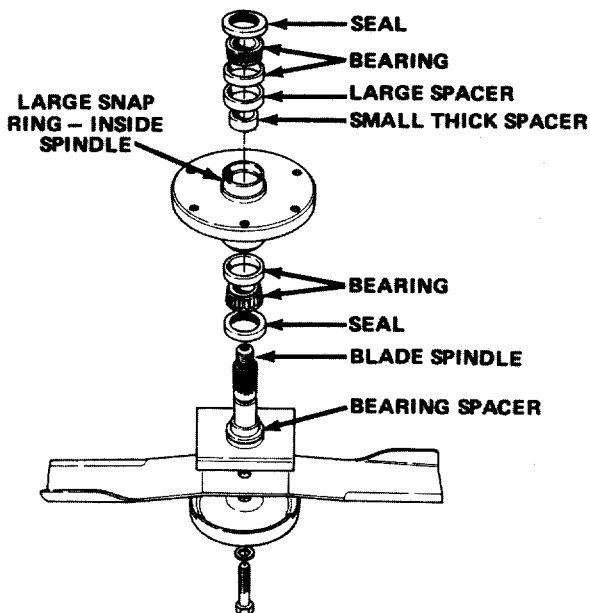
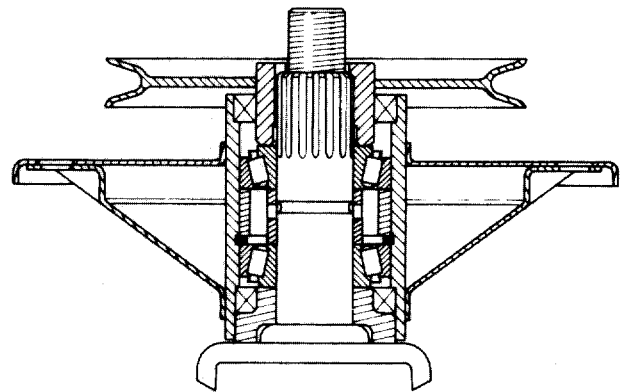
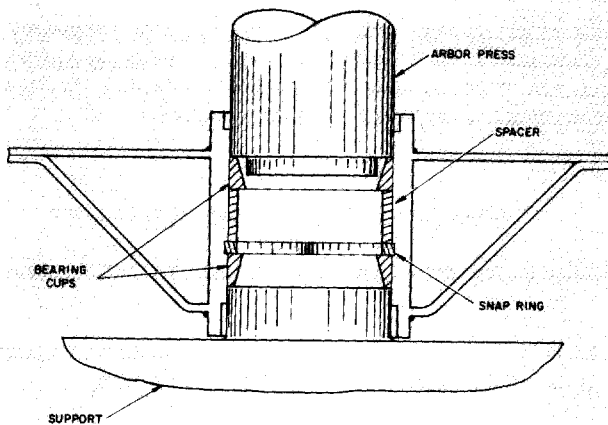

Figure 22
Figure 23
Figure 24
5. If spindle shaft will be replaced, move bladebolt, lockwasher, anti-scalp cup and blade from spindle shaft (Fig. 22). Otherwise, the blade and its other associated parts may be left on the spindle shaft.
6. Press spindle shaft out of spindle housing (Fig. 22) using an arbor press. Bearing spacer (Fig. 22) remains on spindle shaft as shaft is being removed.
7. The seals (Fig. 22) will be removed next; however, notice the lip of the seal. The lip of the upper seal faces inward, and the lip of the lower seal faces outward. Therefore, new seals must always be installed with the lip facing in the proper direction. Now remove seals from spindle housing.
8. Allow bearings and small thick spacer to fall out of spindle housing (Fig. 22).
9. Using a punch and hammer, drive both bearing cups (Fig. 22) out of spindle housing. Also drive large spacer (Fig. 22) out of housing.
1. Install large snap ring into groove in bore of spindle housing (Fig. 23). Assure snap ring is seated in the groove.
2. Using an arbor press, push the large spacer into top of spindle housing and tightly against the snap ring (Fig. 22). Spacer must contact snap ring to be sure of correct assembly of parts (Fig. 23).
3. Thoroughly oil cups and using an arbor press, push bearing cups — smallest ID first — into top and bottom of spindle housing (Fig. 22). Top bearing cup must contact spacer that was installed in step 2, and
bottom bearing cup must contact snap ring to be sure of correct assembly of parts (Fig. 23). Insure assembly is correct by supporting the first cup and pressing the second against it (Fig. 24).
4. Apply a film of grease on lip of both seals; then install bearing and seal into bottom of spindle housing (Fig. 23). Remember though, the bottom seal must have the lip facing outward (Fig. 22) not toward inside of spindle housing.
5. Slide small, thick spacer into spindle housing (Fig. 22). Then, install bearing and seal into top of spindle housing. Lip of the seal must face outward.
7. Slide bearing spacer onto spindle shaft. Carefully slide spindle shaft through spindle housing. Bottom seal and bearing spacer fit together when spindle is installed (Fig. 23).